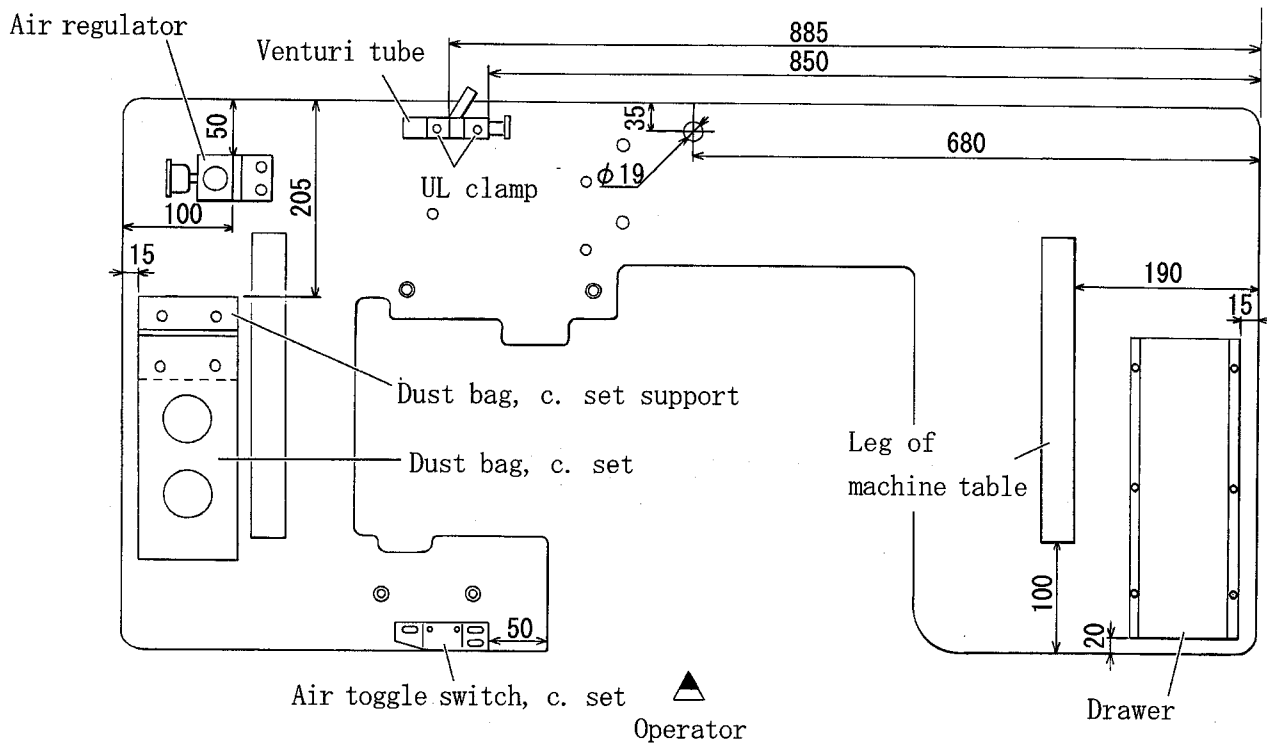

Fig. 1 (Seen from back surface of machine table)
Install the accessories referring to Fig. 1.
Install the dust bag, c. set ① on the back surface of the machine table with wood screws referring to Fig. 1.